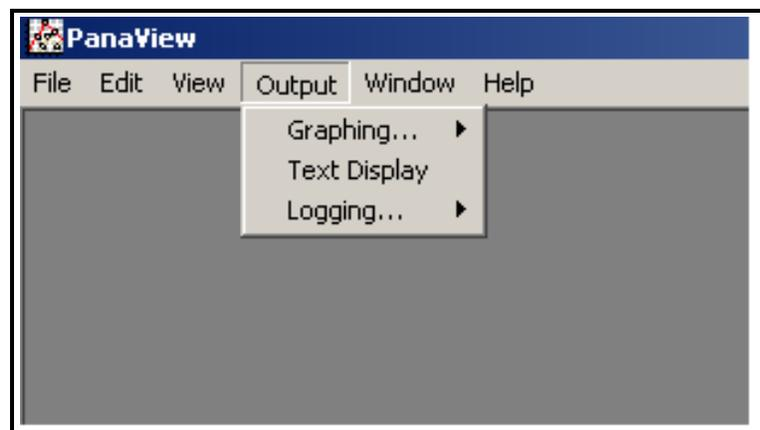

Figure 2-1: The Output Menu
To access PanaView's data handling options, pull down the *Output* menu, as shown in Figure 2-1 below.
2. Pull down the *Output* menu and click on the *Text Display* option (see Figure 2-1 on the previous page).
2. Pull down the *Output* menu and click on the *Graphing - New* option (see Figure 2-1 on page 2-4).